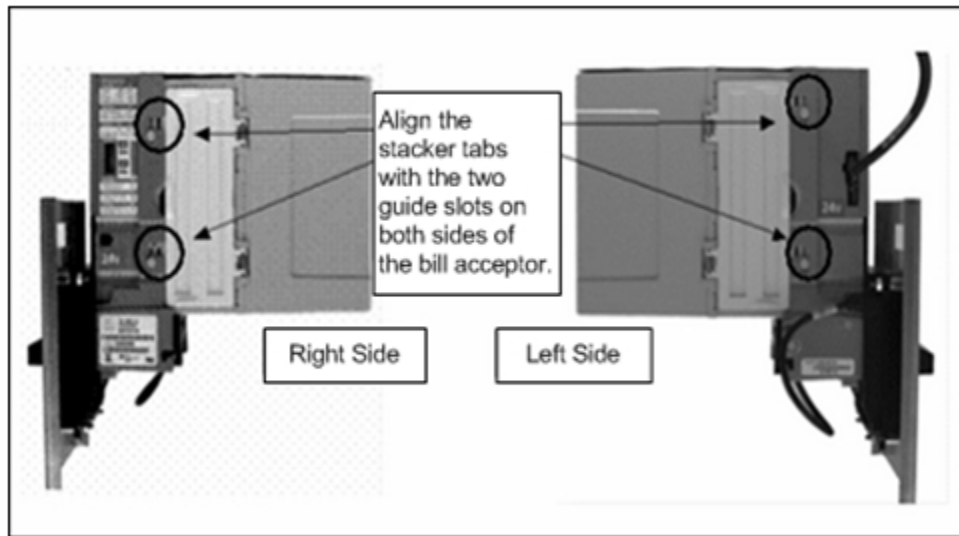

Figure 13. MEI Bill Stacker Replacement
4. Slide the stacker tabs into the guide slots, and then down until it is fully seated, as shown in Figure 13.